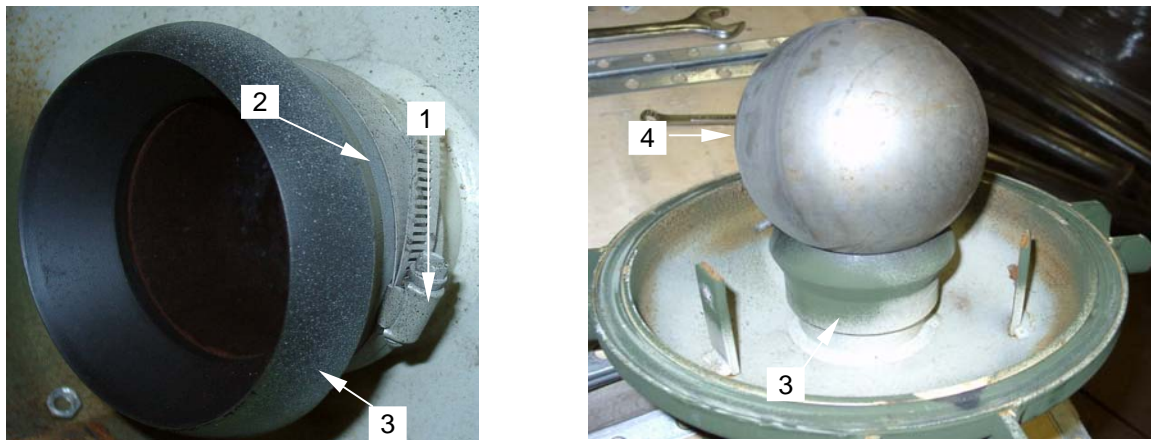

Figure 8. Removing Primary Shutoff Seat
- e. Loosen hose clamp (**figure 8, item 1**) on shutoff seat collar (**figure 8, item 2**) and remove seat from portal lid.
- f. Place new shutoff seat (**figure 8, item 3**) into position and secure with hose clamp (**figure 8, item 1**).
- g. Place new float ball (**figure 8, item 4**) onto shutoff seat (**figure 8, item 3**) as shown.